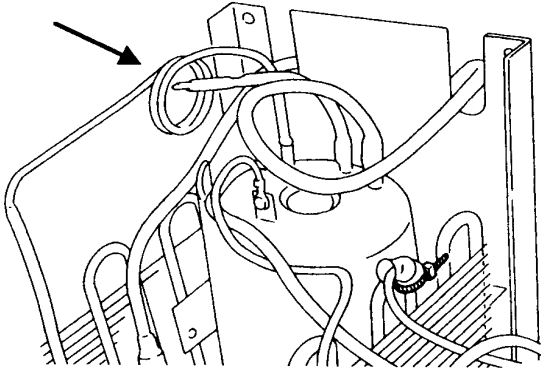

Fig. 5
- 7) Disconnect the white fastener fixing wire condenser thermistor. Disconnect thermistor from wire condenser. (See Fig. 5)